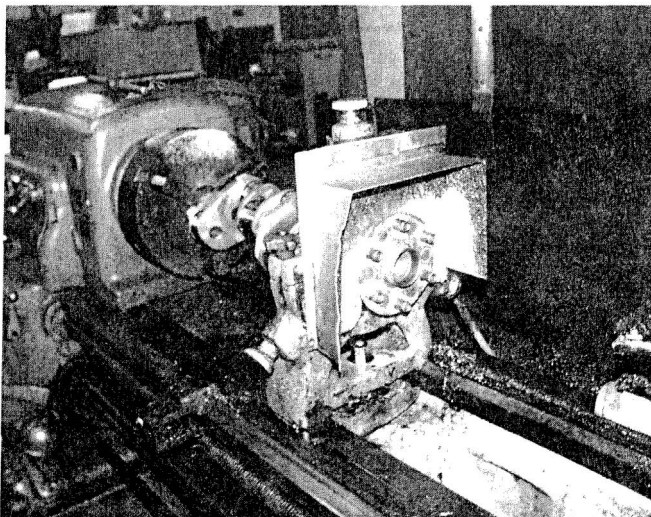

Figure 7-4A.
- c. Clamp chuck jaws on #4 main journal diameter. See figure 7-4A.